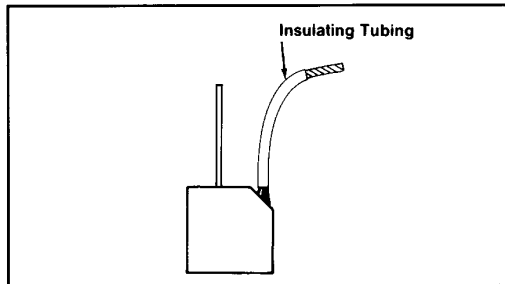

Figure 3 - Forming Replacement Brush Lead
- b. Form the lead in an arc as shown in Figure 3.
- i. Prepare and install brush as shown in Figures 3 & 4.